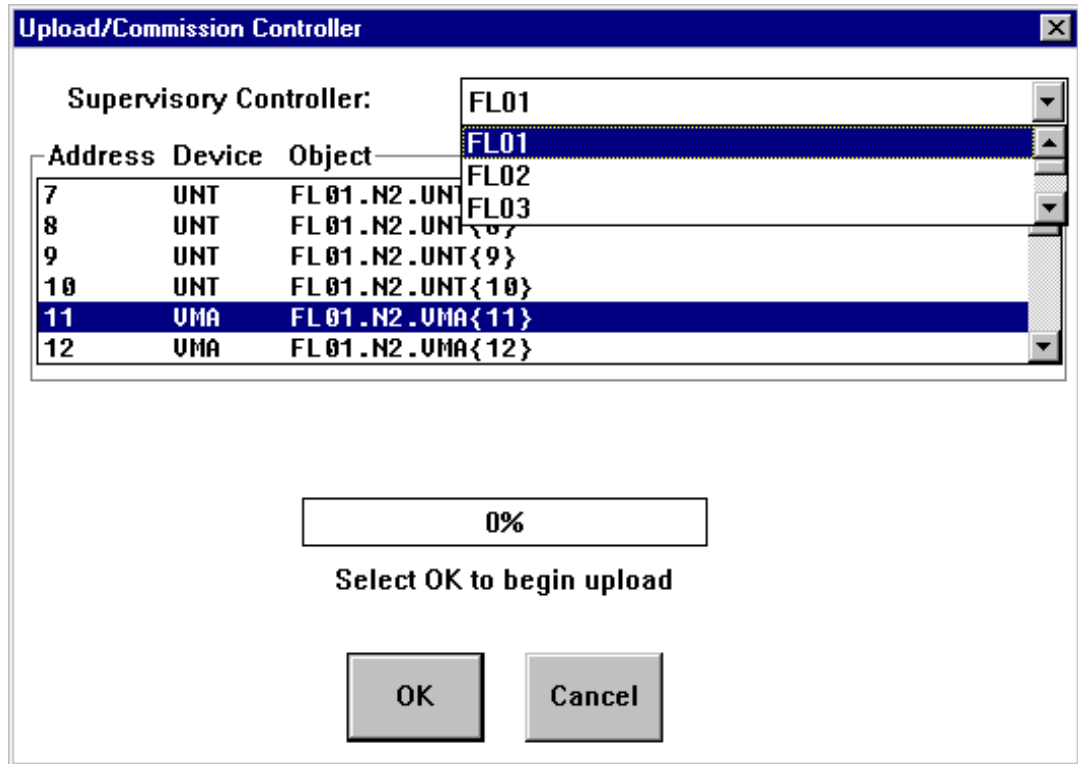

Figure 17-11: Commission Configuration in Controller Dialog Box
1. On the Commission menu, click Configuration in Controller. The Upload/Commission Controller dialog box appears (Figure 17-11).